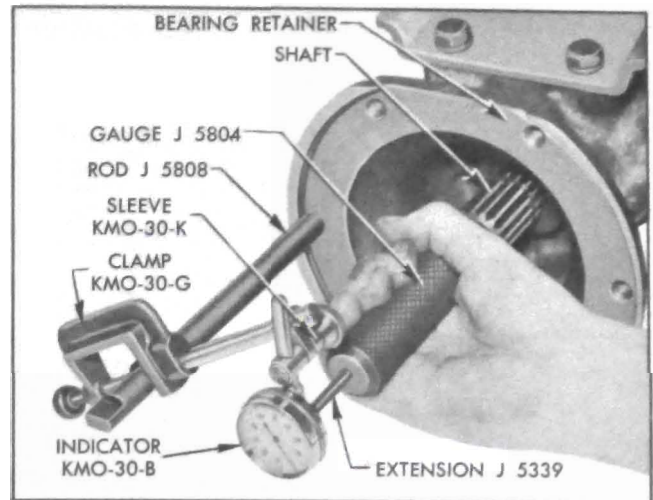

Figure 5-93—Checking Output Shaft End Play
7. Use Clamp KMO-30-G and Sleeve KMO-30-K to mount Dial Indicator KMO-30-B and Extension J 5339 so that the extension bears squarely against the end of Gauge J 5804. See figure 5-93.